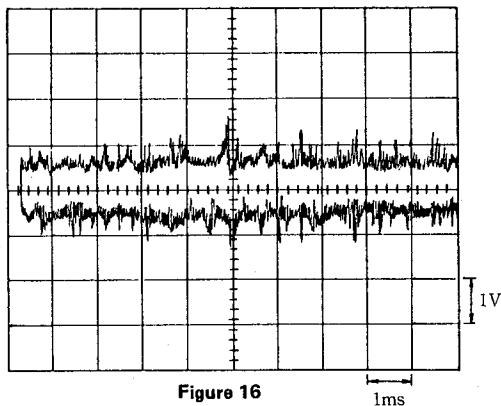

Figure 16
- (1) Insert the Philips Test Sample 4 test disc (non-scratched), observe the noise voltage on the voltmeter, and adjust VR103 so that the noise voltage on TP103 and TP102 is of 0.3V RMS  $\pm$  0.01V. (Figure 16)
### 6-1 Adjustment of Turntable Height (Figure 16)